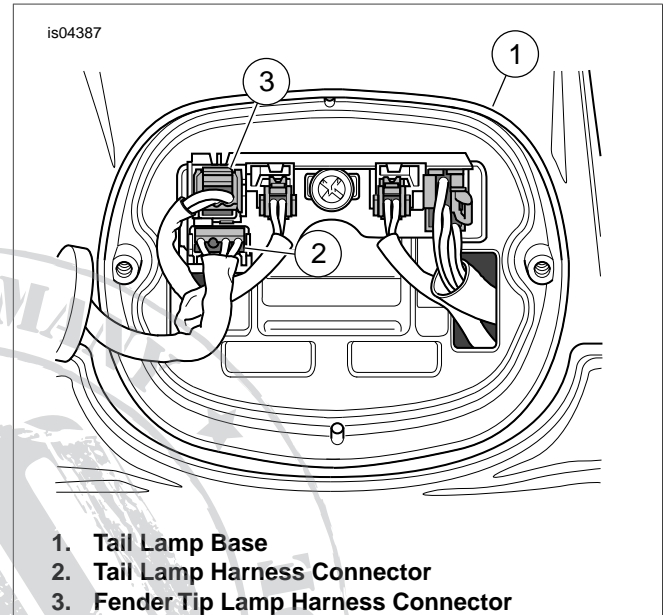

Figure 1. Tail Lamp Base
1. See Figure 1. Remove two screws to disconnect tail lamp lens from chrome base (1). Save screws for reuse.
2. Disconnect fender tail lamp harness connector (2) from tail lamp socket.
3. Disconnect fender tip lamp harness connector (3) from tail lamp socket.
7. See Figure 1. Slip harness connector through opening in lower left of tail lamp housing and connect to socket (3).
8. Connect tail lamp harness to socket (2) in the tail lamp base (1) and install tail lamp lens to housing with screws from Step 1. Tighten screws to 20-24 **in-lbs** (2.3-2.7 Nm).